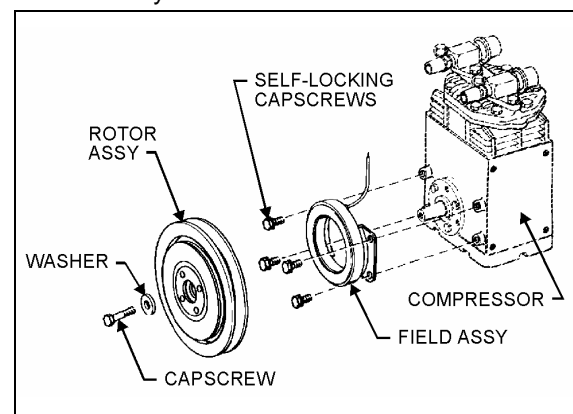

FIGURE 25: PULLEY INSTALLATION
mounting holes with the bolt holes in the bosses (Fig. 25). Insert four (4) self-locking cap screws, supplied with the clutch, into the bolt holes of the compressor. Tighten the cap screws to a wrench torque of 7/10 lbf•ft (9,5/13,5 N•m). Take care not to strip the threads in the compressor body.